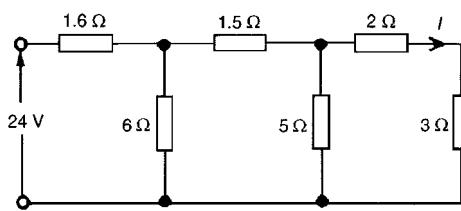

Figure 5.34
- 10 Find the current I in Fig. 5.34 [1.8 A]